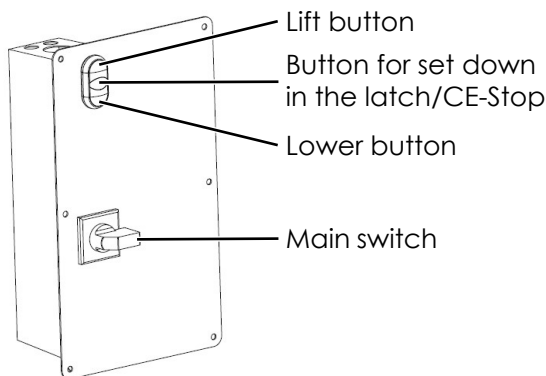

Figure 4: Operating unit
- Lift the vehicle until the wheels are off the ground. Push the lift button → "Lift" (see Figure 4)
- The lift stops automatically about 20 cm before it reaches the lowest position. To lower the lift completely, press the "CE Stop" (Figure 4) pushbutton,